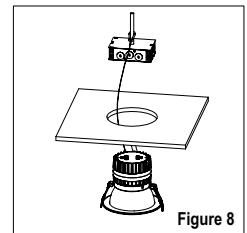

Figure 8
3. Attach the carabiner safety lanyard to secure place inside the ceiling. (See Fig. 8)